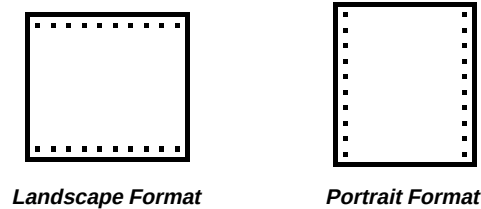

Figure 3-17: Hardcopy Formats
3. Press **SHIFT HARDCOPY MENU** → **Layout** (main) → **Landscape** or **Portrait** (side) (see Figure 3-17).